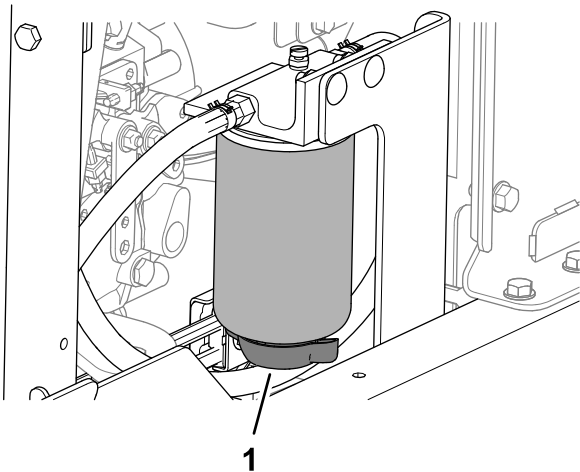

Figure 81
3. Align a drain pan under the drain valve of the fuel-water separator (Figure 81).